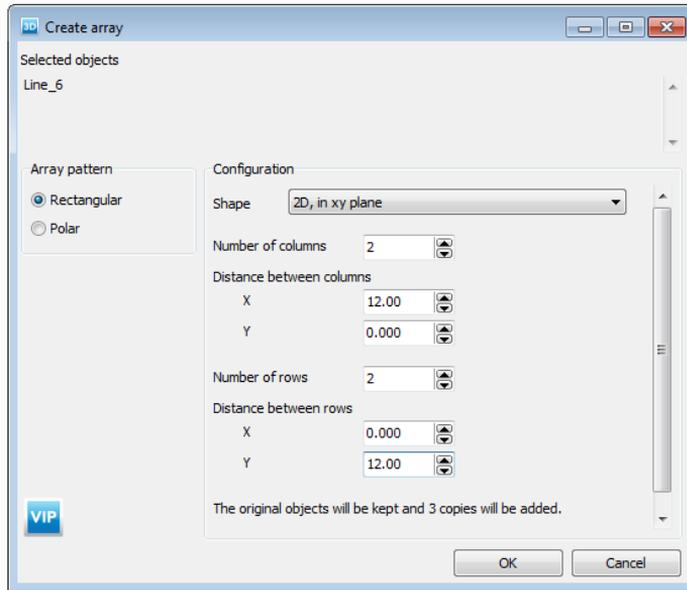

Figure 1.21 Create array window
- Keep the number of rows as 2. Set the distance between the rows to $x = 0$ and $y = 12$ (Figure 1.21).